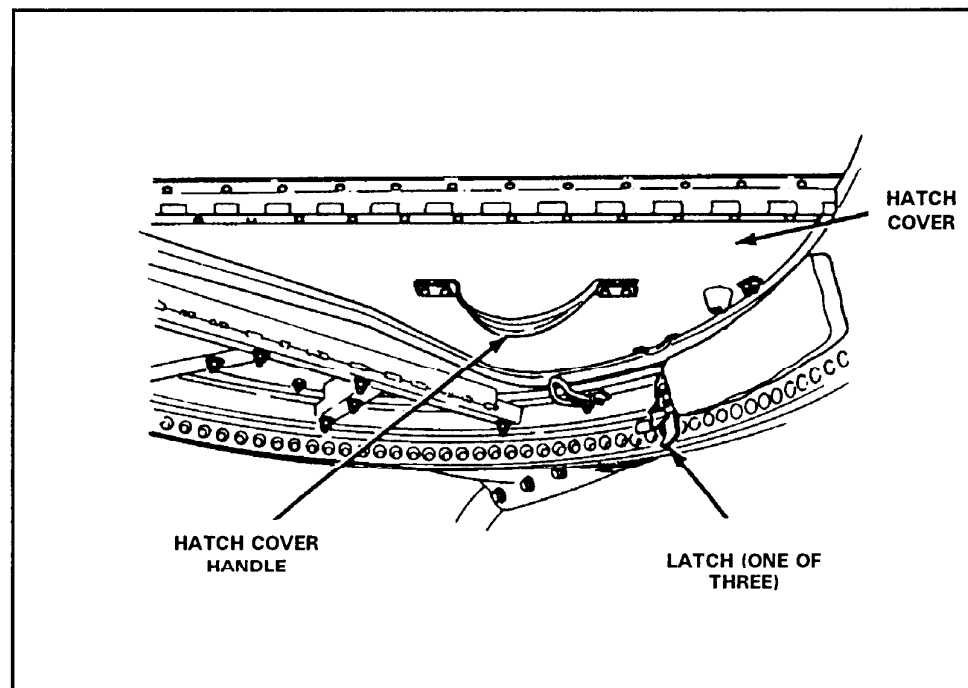
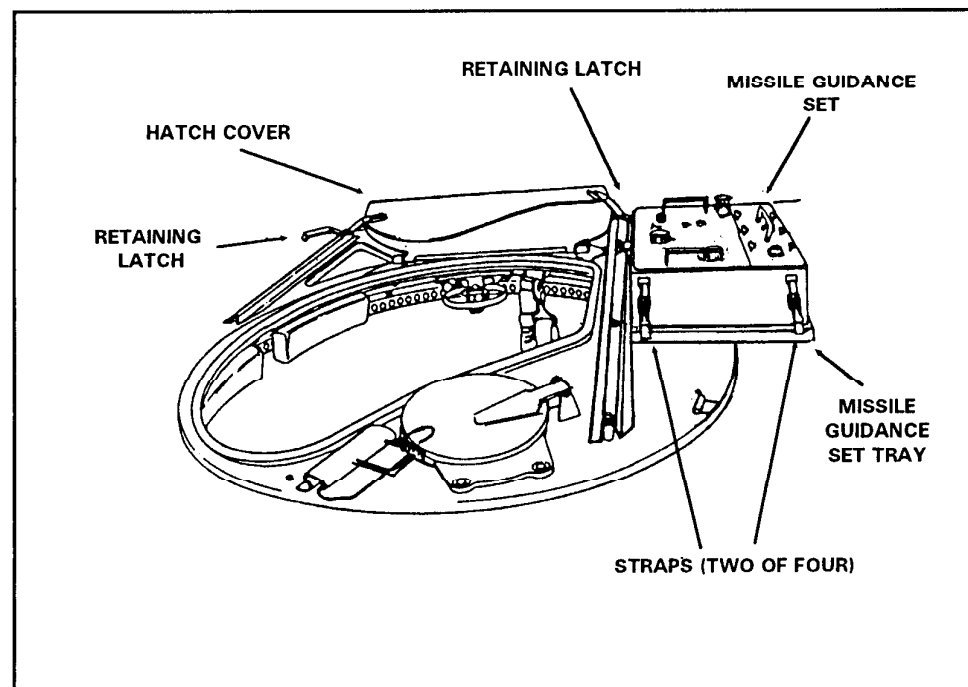

Figure 3-5. Hatch cover and latch.
Figure 3-6. Hatch cover retaining latches and MGS tray.
a. The gunner, driver-loader, and squad leader release the latches securing the hatch cover (Figure 3-5, page 3-8). The driver-loader enters the right rear passenger door.
(1) The gunner unlatches the retaining strap securing the MGS.
(2) The gunner releases the latches to remove the MGS cover and hands the cover to the squad leader.
(3) The squad leader stows the MGS cover in the front passenger's footwell of the vehicle.
(4) The gunner tilts the MGS to the vertical position on the gunner's platform and releases the lower coupling clamp on the traversing unit adapter.
d. The gunner lifts the MGS through the weapon station, places it on the MGS tray, and secures it with the straps (Figure 3-6, page 3-8).